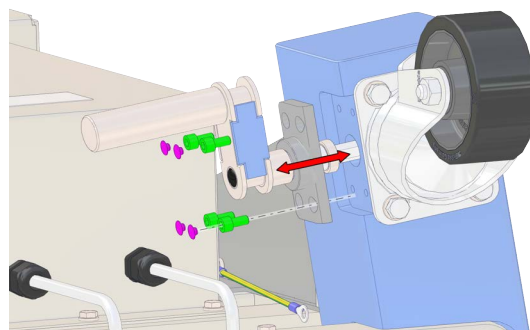
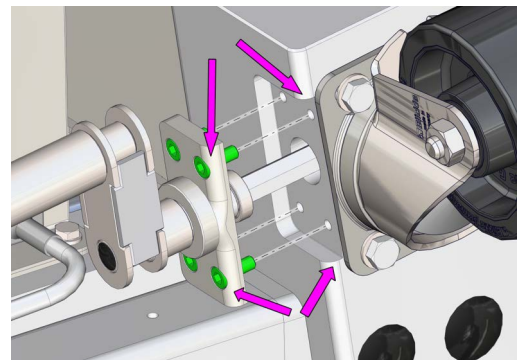

Fig 3.7 Remove/Fit Brake Lever
Fig 3.9 Brake Assembly Alignment
- Remove 4 off M6x12 screws that fasten brake lever to base frame (move brake lever as required for access to screws), slide brake lever out of frame (Fig 3.7).
With the brake assembly lever in disengaged position, make sure the top/bottom faces are parallel to the top/bottom faces of the angled leg (coloured blue in Fig 3.7) and the radius edge is aligned with the radius on the lower face (Fig 3.9 arrowed).